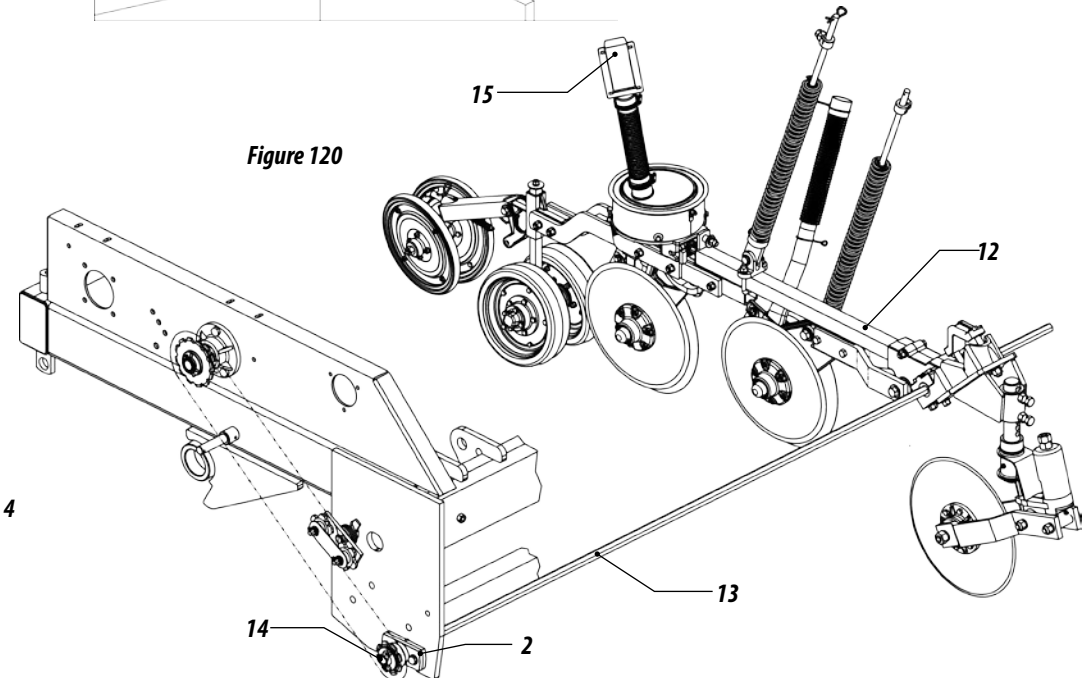

Figure 120
- 08 - Fix the hub (2) to the stiffener (1) with screws (3), washers and nuts (4).
- 09 - Mount the complete stretcher (5) on the stiffener with washer and nut (6) and also the middle hub (7) with the screws (8), washers and nuts(9), insert the chain (10) between the hub gears (2) and (7), passing through the stretcher (5).
- 10 - The chain (11) will be mounted on the hub gear (7), passing through the Speed Box and also the ratchet gear, which are from the conventional transmission.
- 11 - Fix the CPD row (12) to the seed drill stiffener bar in the desired spacing, according to the crop to be planted.
- 12 - Insert the shaft (13) into the hub (2), passing through the hub of the rows (12), and fixing it with the latch (14).
- 13 - Fix the seed nozzles (15) to the rear outlets of the seed hopper of the seed drill, figure 120.